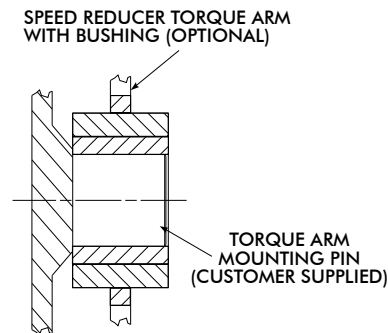

Figure 2.2a Insertion of Torque Arm Pins in Torque Arm
1. Insert torque arm mounting pins in torque arm on reducer; reference Figure 2.2a.